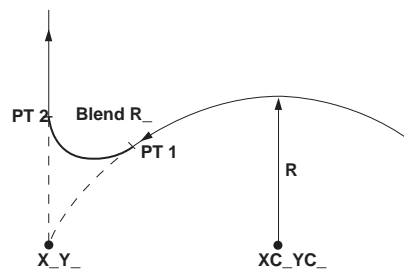

Figure 7-31
- X ABS Y ABS** the intersection point of the ARC and the next LINE or ARC in the path (see Fig 7-31.)